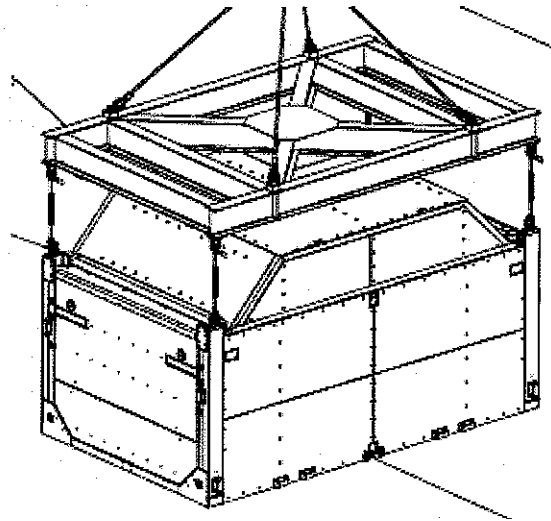

Figure 2
- 5.3 Use the crane and position the PLF over the PSS, and attach the turnbuckles from the PLF to the swivel hoists on the PSS, see Figure 2. Shorten the turnbuckles as required.
- 5.10 Use the crane and position the PLF over the PSS, and attach the turnbuckles from the PLF to the swivel hoists on the PSS, see Figure 2. Shorten the turnbuckles as required.